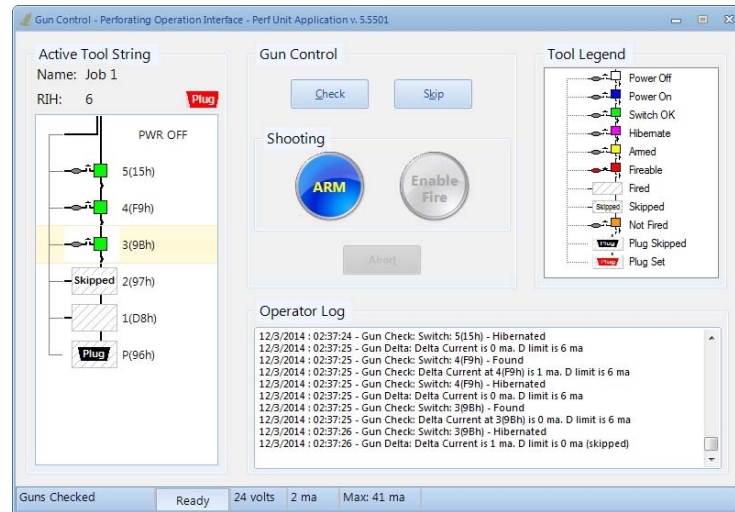

Figure 49
2. A gun Check will automatically occur, resulting in switch 2(97h) skipped and Gun 3 ready to arm as seen in Figure 49.